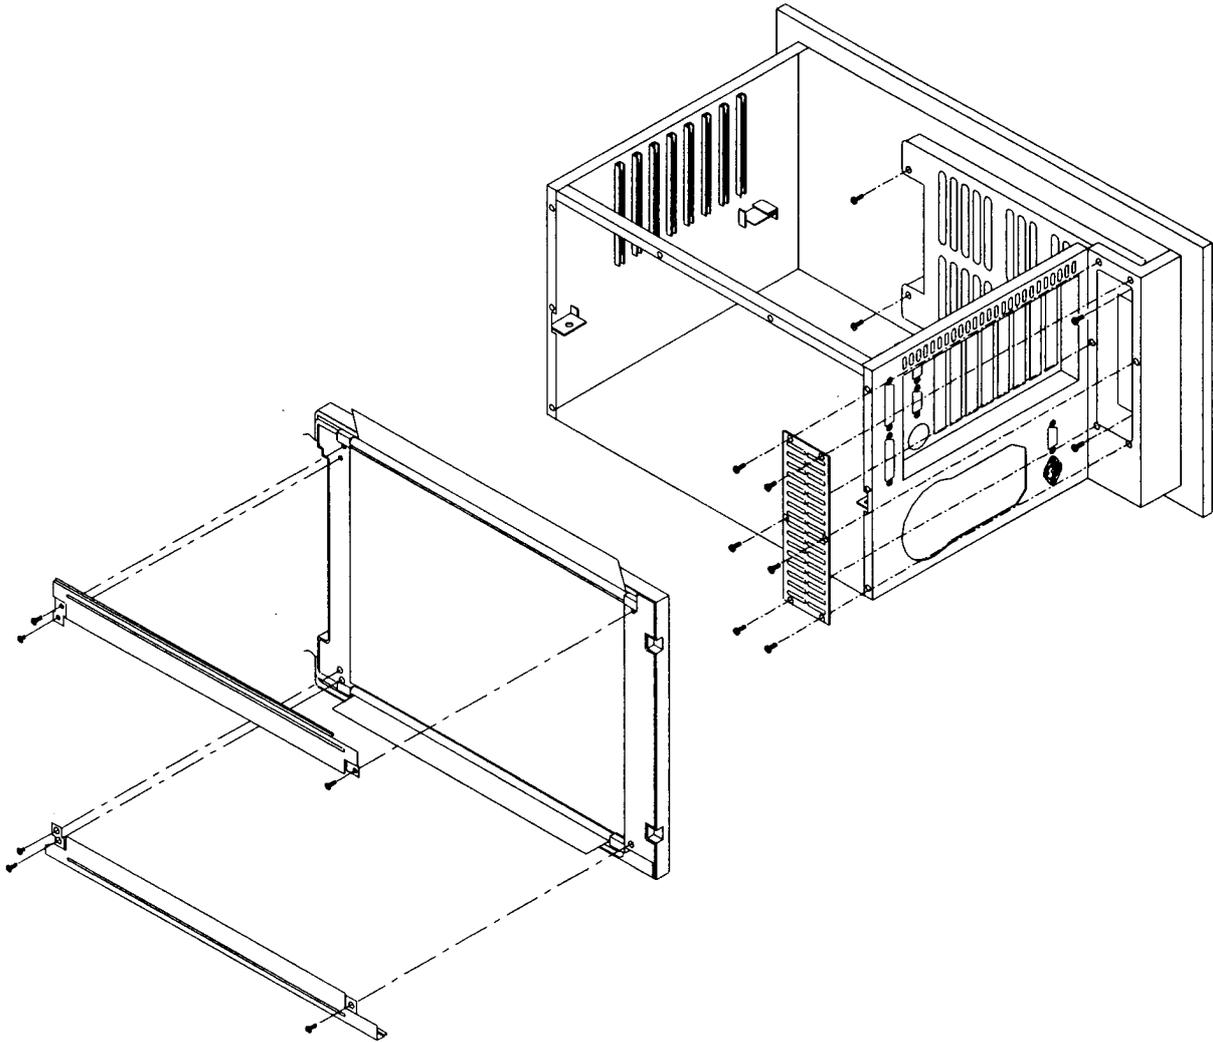

Figure 6. Replacing the LCD backlight.
3. Detach the two brackets behind the front panel. One is bigger than the other. (See figure 6)